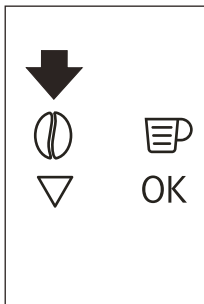

Fig. 15
- ▶ After using the machine with pre-ground coffee, to go back to making coffee using beans, deactivate the pre-ground coffee function by pressing the ☕ icon (B4) (Fig. 15).